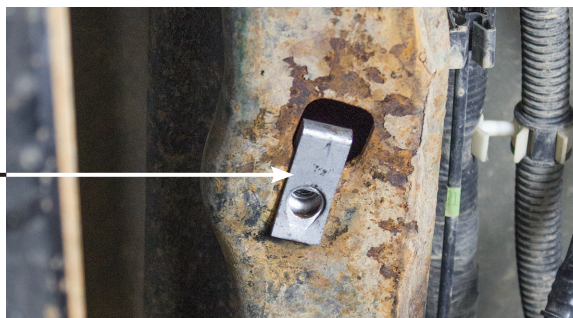

fig. 5
4. For the early 2004-08 models, install a new universal nut (V) into the large hole so that the threaded portion is up inside the frame (Fig. 5, next page).